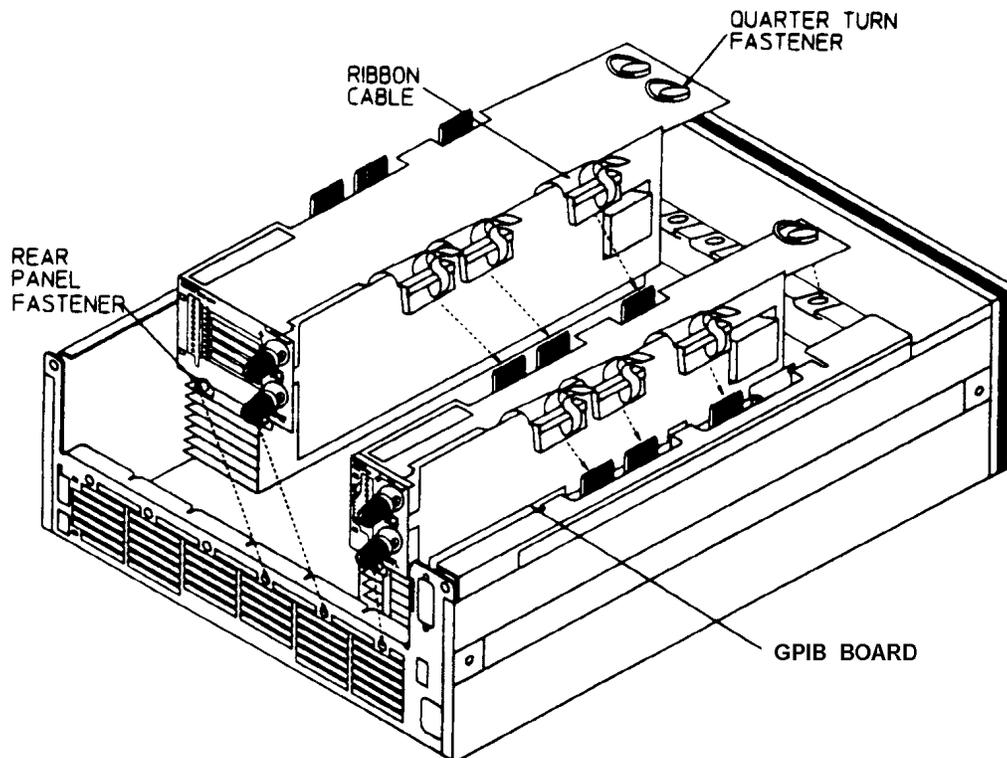

Figure 3-2. Limiting Modules In an Agilent
4. Start installing the modules in the slot next to the GPIB board (see Figure 3-2.)